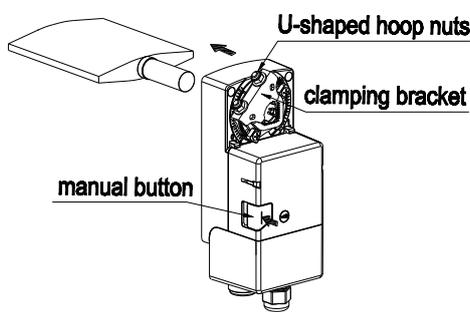

Fig.2
2. As shown in Fig.2 and 5, manually rotate the actuator clamping bracket counterclockwise to the 0-scale position, install it on the damper shaft (damper closed status), and tighten the U-hoop nut.